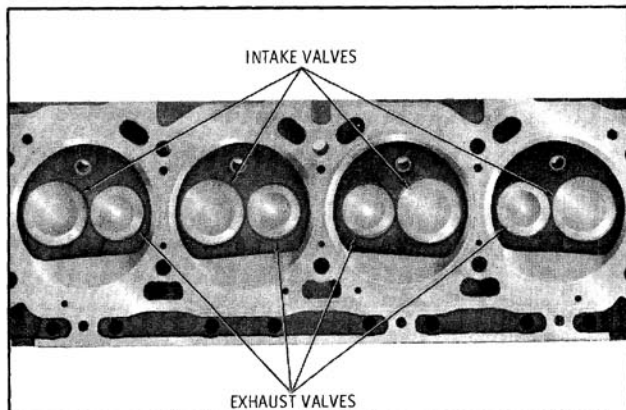

Fig. 3-65 Valve Location
5. Remove valves. Keep valves separated so they can be installed in their original locations. (Fig. 3-65)